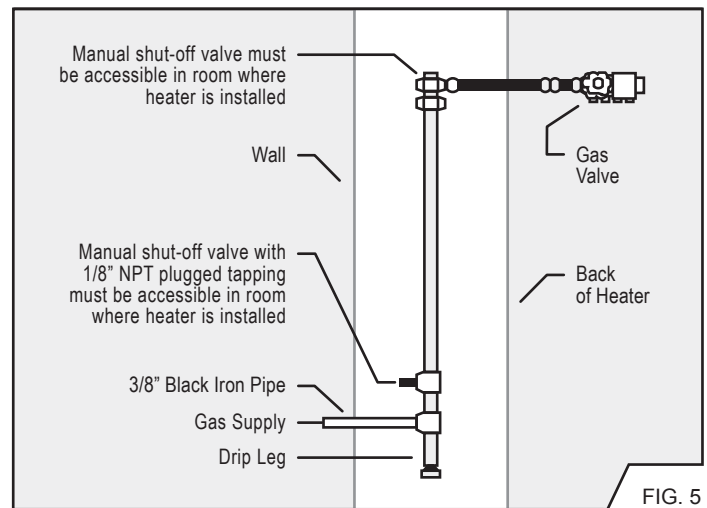

FIG. 5
Step 2. ROUGH-IN GAS SUPPLY (See Figure 5)
Install a drip leg in gas supply line immediately upstream from the gas connection to heater (see local codes), and provide a 1/8" N.P.T. plugged tapping, accessible for test gauge connection and an individual manual shut off valve accessible within room where heater is installed. (See Figure 5). The heater and its individual shut off valve must be disconnected from the gas supply piping system during any pressure testing of that system at test pressures in excess of 1/2 psig (3.5 Pa). The heater must be isolated from the gas supply piping system by closing its individual manual shut off valve during any pressure testing of the gas supply piping system at test pressures equal to or less than 1/2 psig (3.5 Pa). Test all connections for leaks using a soapy solution. **NEVER USE AN OPEN FLAME TO TEST FOR LEAKS.**
- b) Slide collection box pipes through cutout & secure collection box to inside wall. Anchors (not supplied) may be required. See Figure 5.
- g) Connect 3/8" minimum gas supply line to manual cut-off valve on back of the heater. (*See Figure 5*).